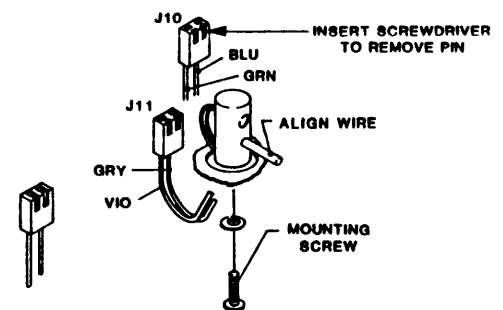

Figure 5-24.
5.3.29 TAPE-IN-CHANNEL EMITTER AND TAPE-IN-CHANNEL SENSOR ASSEMBLIES (Figure 5-24)